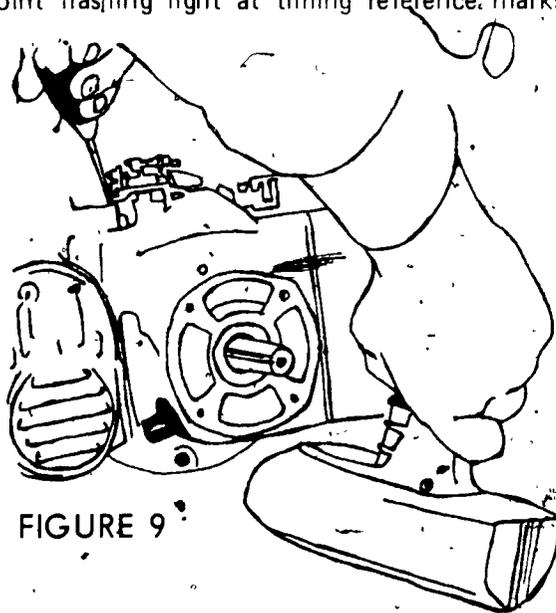

FIGURE 9
3. Point flashing light at timing reference marks (Figure 9)